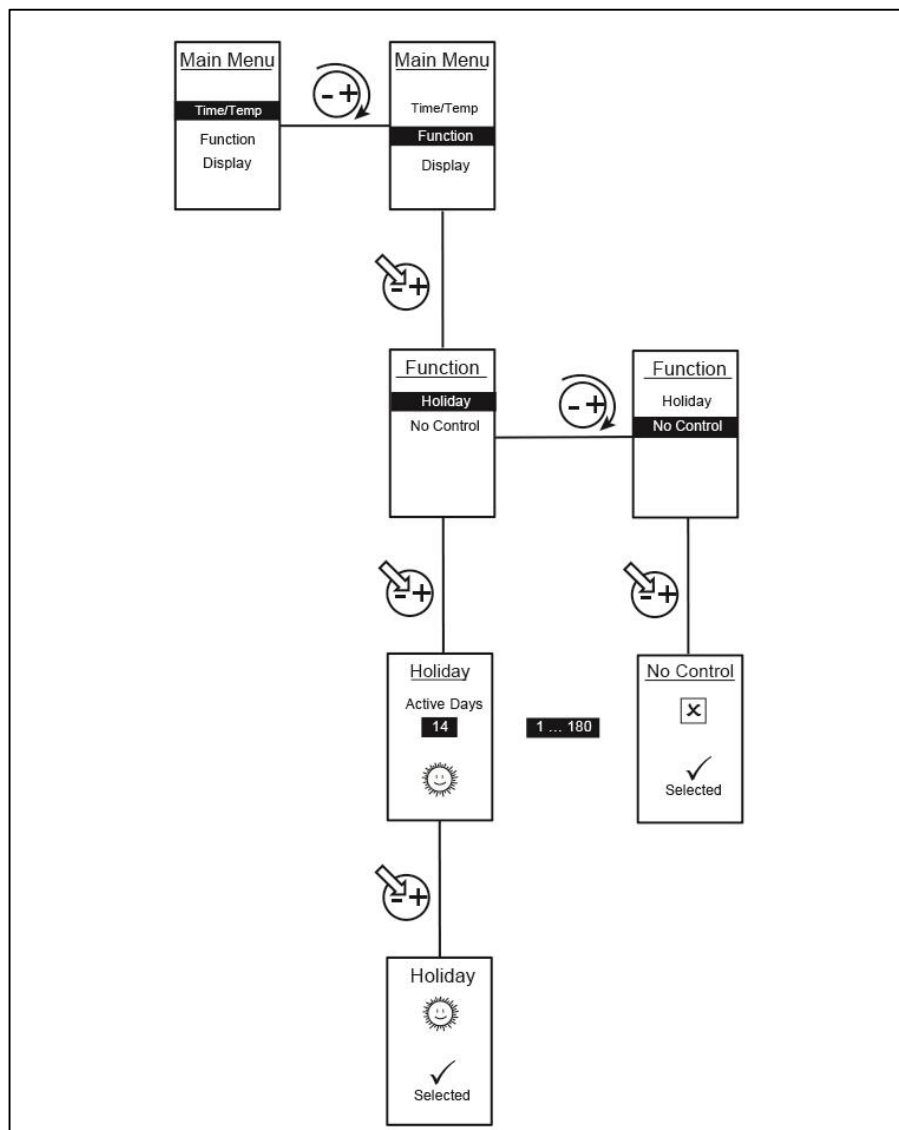

Figure 20: How to Set Timer Modes
- setting of Functions (see Figure 20)